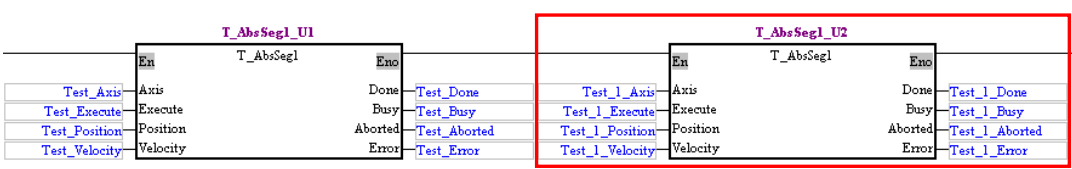

Figure 13-37 Using **Input Words by Prefix** again to assign symbols to the pins of a function block
- (2) If a function block definition has two function block instances in a program, the symbols assigned to the pins of the second function block instance will be generated according to the same rule after **Input Words by Prefix** is clicked, but a number will be added to the ends of the prefixes in the symbols (rather than the ends of the symbols). Please see figure 13-37.